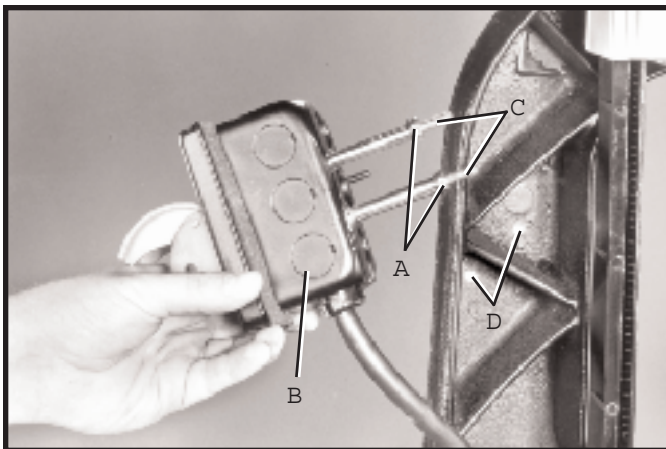

Fig. 19
3 Remove two outer hex nuts and lock washers (A) Fig. 19, from the two screws extending out from the back of the switch box (B).
4 Insert two screws (C) Fig. 19, located on back of switch box, into two holes (D) located in the band saw arm.